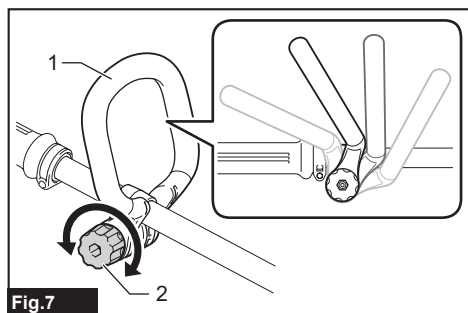

Fig.7
► **Fig.7:** 1. Loop handle 2. Thumb nut